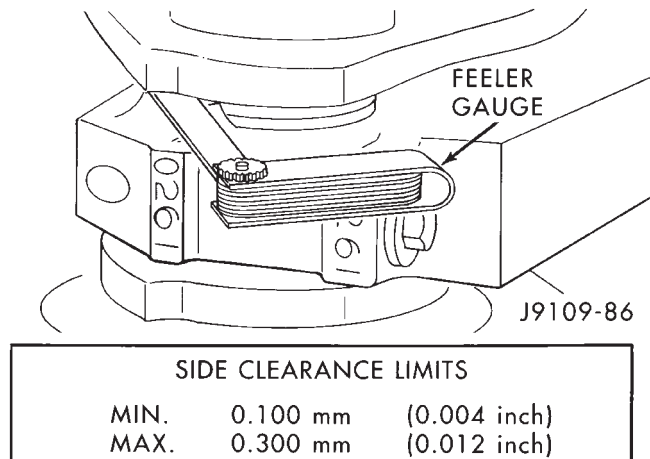

Fig. 80 Side Clearance between Connecting Rod/Crankshaft
(12) Measure the side clearance between the connecting rod and the crankshaft (Fig. 80). DO NOT measure the clearance between the cap and crankshaft.